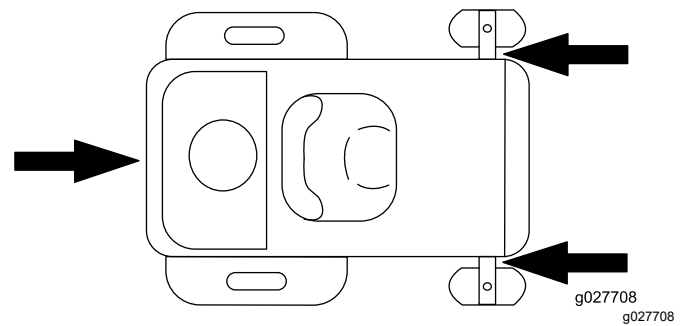

**Figure 30**
4. Back the machine up the ramp (Figure 30).
2. Drive the machine forward down the ramp (Figure 30).